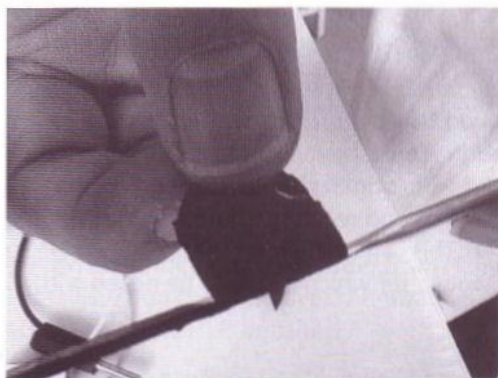

Figure 3 Removing polypyrrole from the nickel electrode.
Figure 3: Increasing usage of interfacing devices is sustained by physics into S5 and S6 courses with biology and chemistry showing some further increase in occasional usage.
- It will take approximately 40 minutes to form a film of polypyrrole thick enough to work with. After this time, switch off the power and remove the nickel electrode from the solution. Wash with distilled water and using a scalpel or razor carefully slice along one edge of the deposit and peel off the polypyrrole film (Fig. 3).
A carrier for up to 6 universals or McCartney bottles is made from 1 pint or 2 pint plastic (HDPE) milk cartons (see Figure 3). Simply mark a line 7 cm from the base of the carton and cut round it to give a smooth edge. If you wish a handle for this, one can be made following the same method as that used for the Petri dish carrier or 'Buggy Bottle'.
Figure 3 A SAPS 'Buggy Box' - a holder and carrier for Universal containers or McCartney bottles made from the base of a plastic (high density polyethylene or HDPE) milk container.